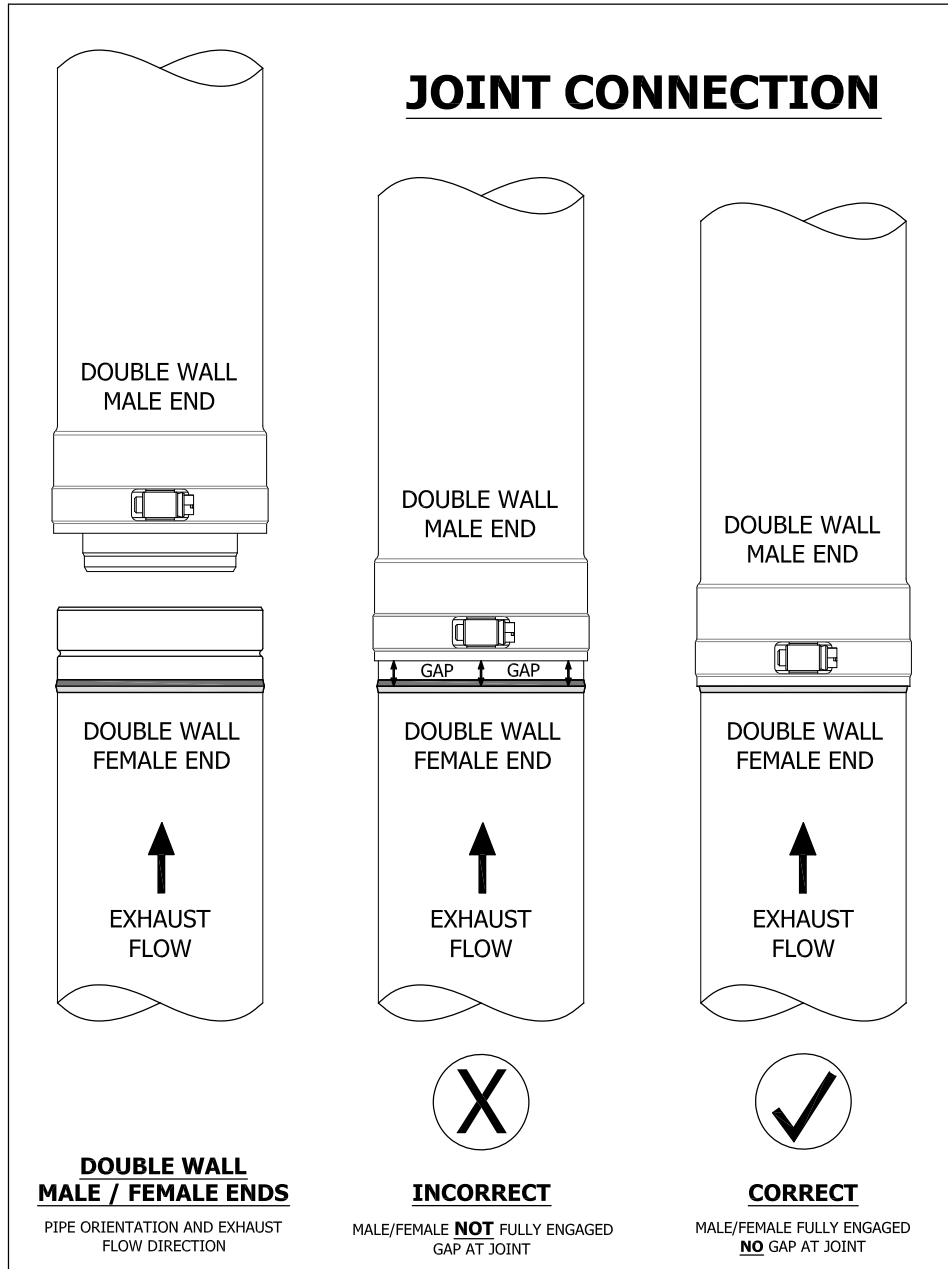

Figure 2a
1. Insert the male end into the female section. Push the units together and turn them until half of the bead on the male end is covered by the flared edge of the female end. (see **Figure 2 & Figure 2a**). This creates the needed airtight seal for Category II, III or IV appliances. Align the seams on the vent lengths and orient them upward in all horizontal applications.